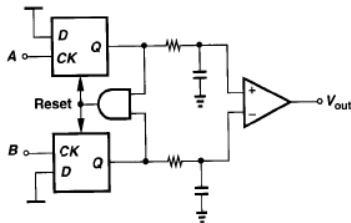

Figure 15.27 PFD followed by low-pass filters.
- The difference between the two flip-flop outputs is of interest. They are low-pass filtered and sensed differentially in Fig. 15.27